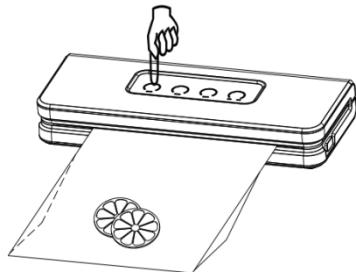

Figure 4
7. Press Vacuum Seal Button and the appliance will complete the process automatically (**as shown in Figure 4**);